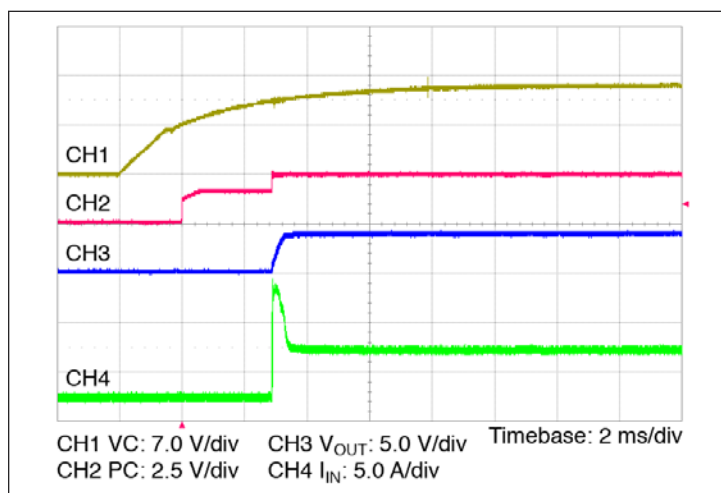

Figure 11 — Start up from application of VC;
- Stand-alone operation (VC applied after V_{IN}): In this case the VTM output will begin to rise upon the application of the VC voltage (See Figure 11). The Adaptive Soft Start Circuit (See Section 11) may vary the output rate of rise in order to limit the inrush current to its maximum level. When starting into high capacitance, or a short, the output current will be limited for a maximum of 120 µsec. After this period, the Adaptive Soft Start Circuit will time out and the VTM module may shut down. No restart will be attempted until VC is re-applied or PC is toggled. The maximum output capacitance is limited to 1000 µF in this mode of operation to ensure a successful start.